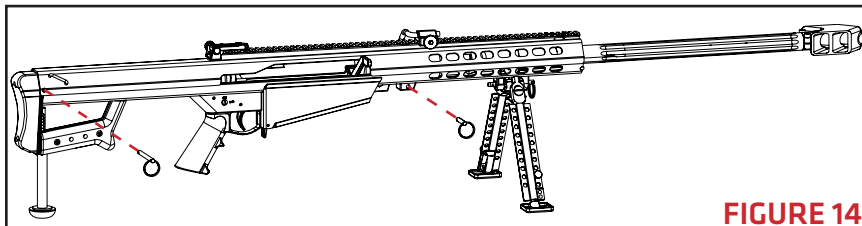

FIGURE 14
10. Place the midlock pin (shorter pin) through the midlock hole in front of the magazine well on bottom of the rifle until it is fully seated, locking the upper and lower receivers together. Insert the rear lock pin through the rear lock hole of the upper receiver to complete the mating of the receivers (**FIGURE 14**).